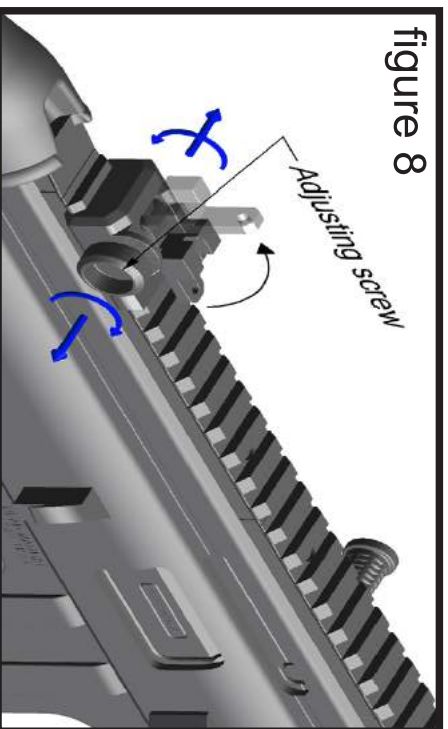

figure 8
1. To retract the rear sight just push the rear sight down. (to the frontside). To get it up pull it back to it's shooting position. (figure 8).